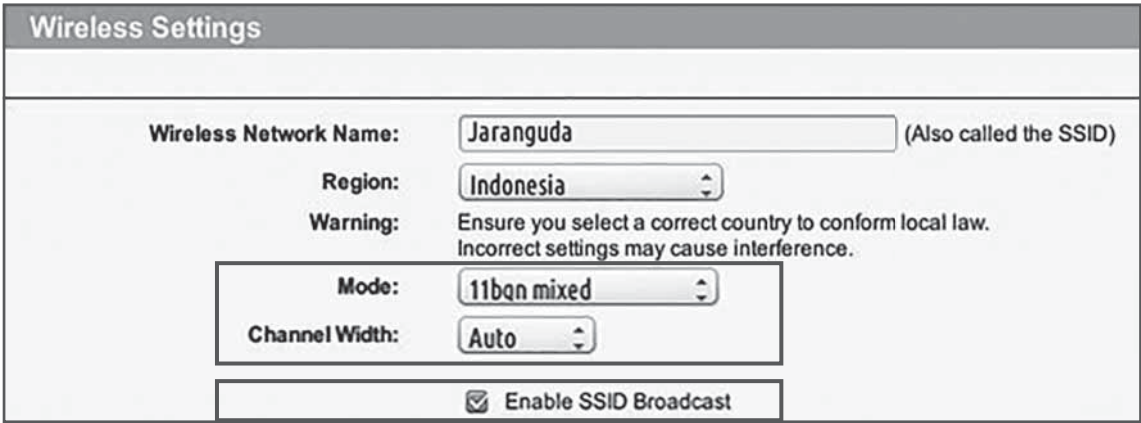

Fig. 1
- 2.Make sure your router 802.11 mode of wireless setting is **b/g/n mixed**. (See Fig. 1)
- 3.Make sure your router channel/ band width of wireless setting is **Auto or 20M or 20M mixed 40M**. (See Fig. 1)
- 4.Make sure your router **Enable the SSID Broadcast function** when you connect the machine with the APP. And you can close it after you connect successfully. (See Fig. 1)